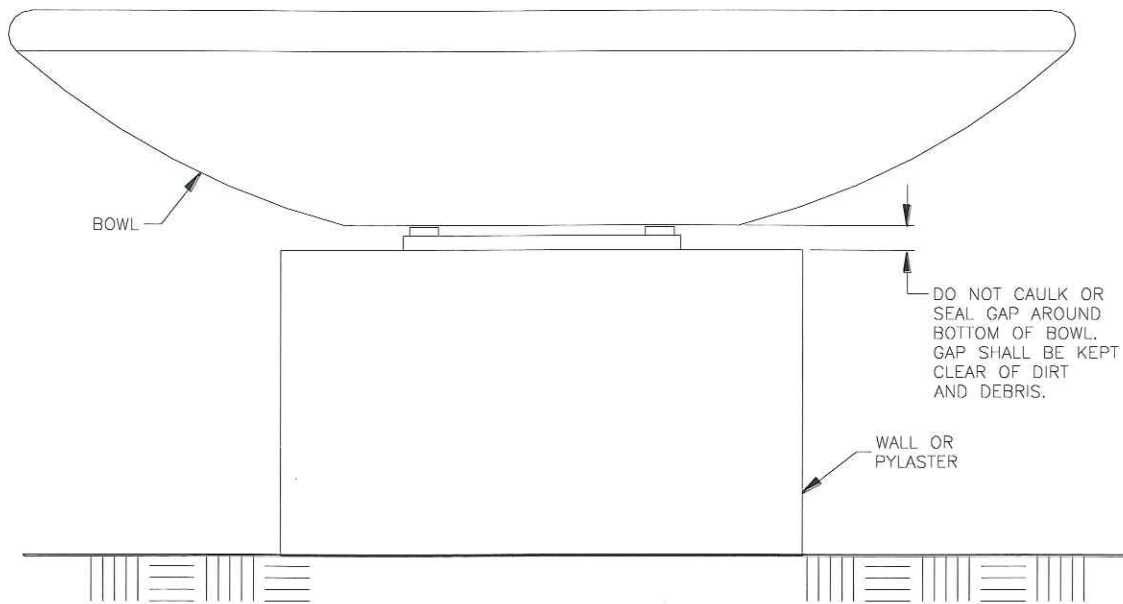

Figure 8
(See Figure 8)**
- 4.3 Frequently inspect the gap between the base of the Bowl and the Mounting Bracket. It should be kept free of dirt and debris that may restrict cooling air and drainage. (Fig 8)